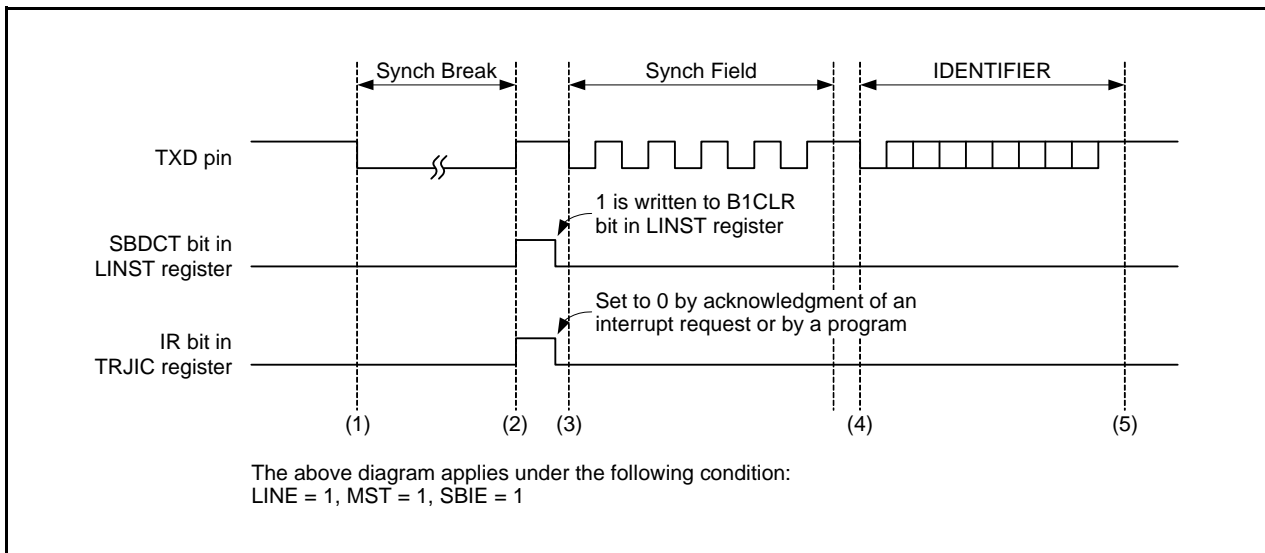
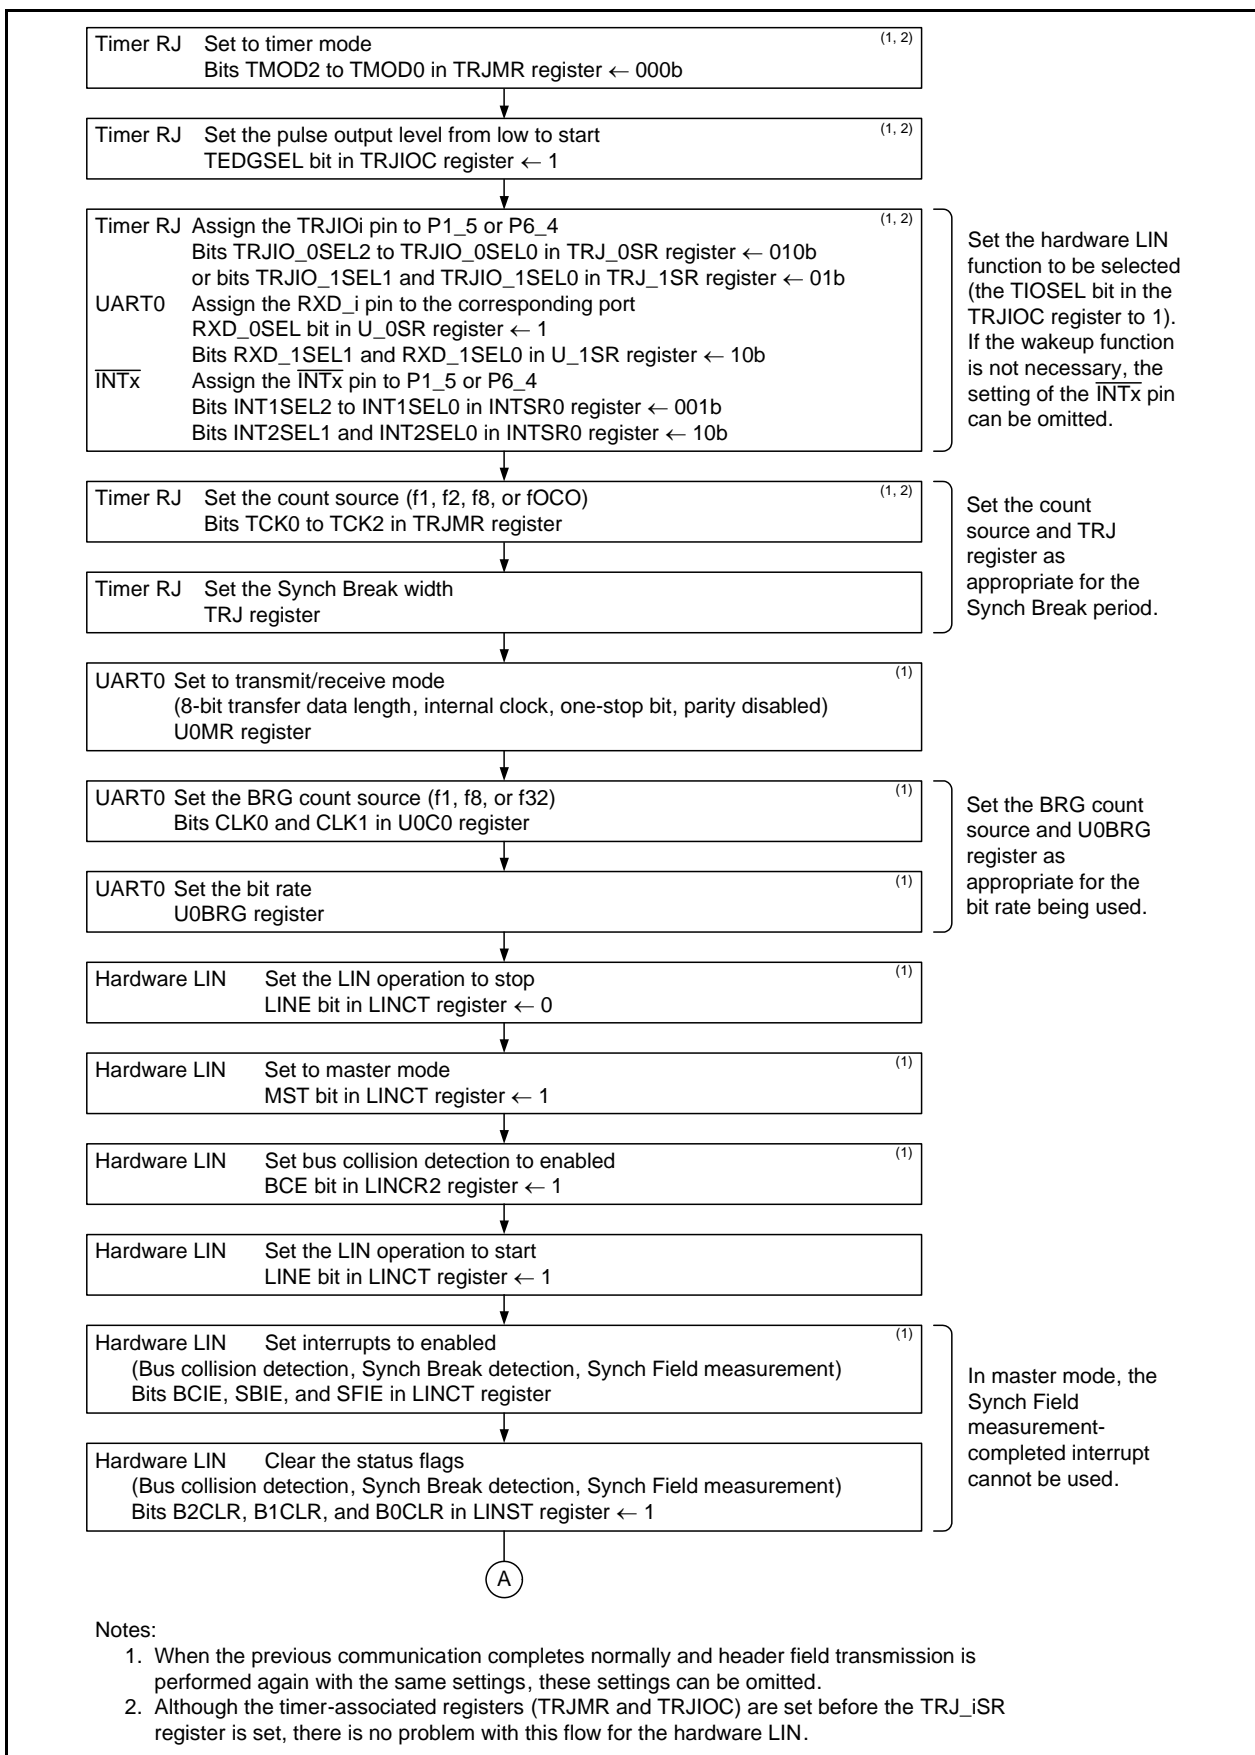
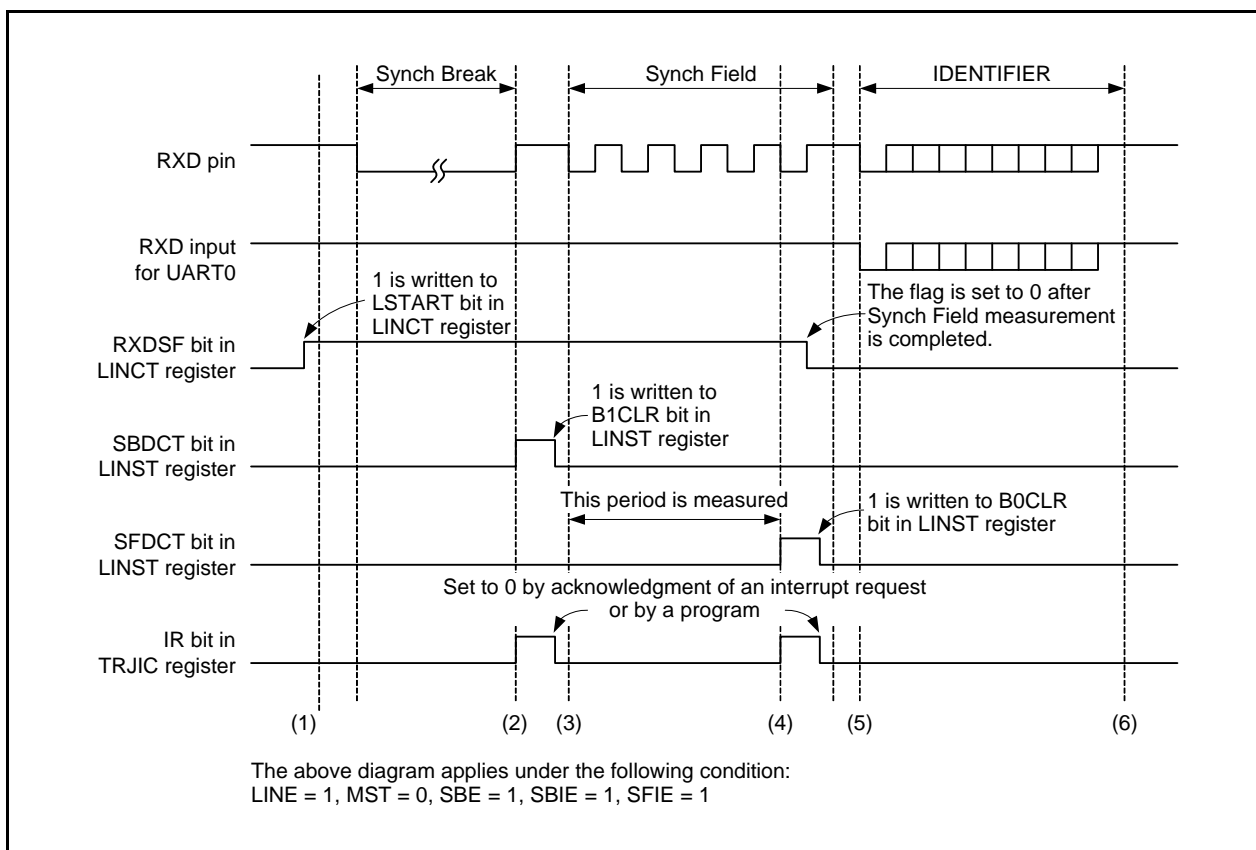
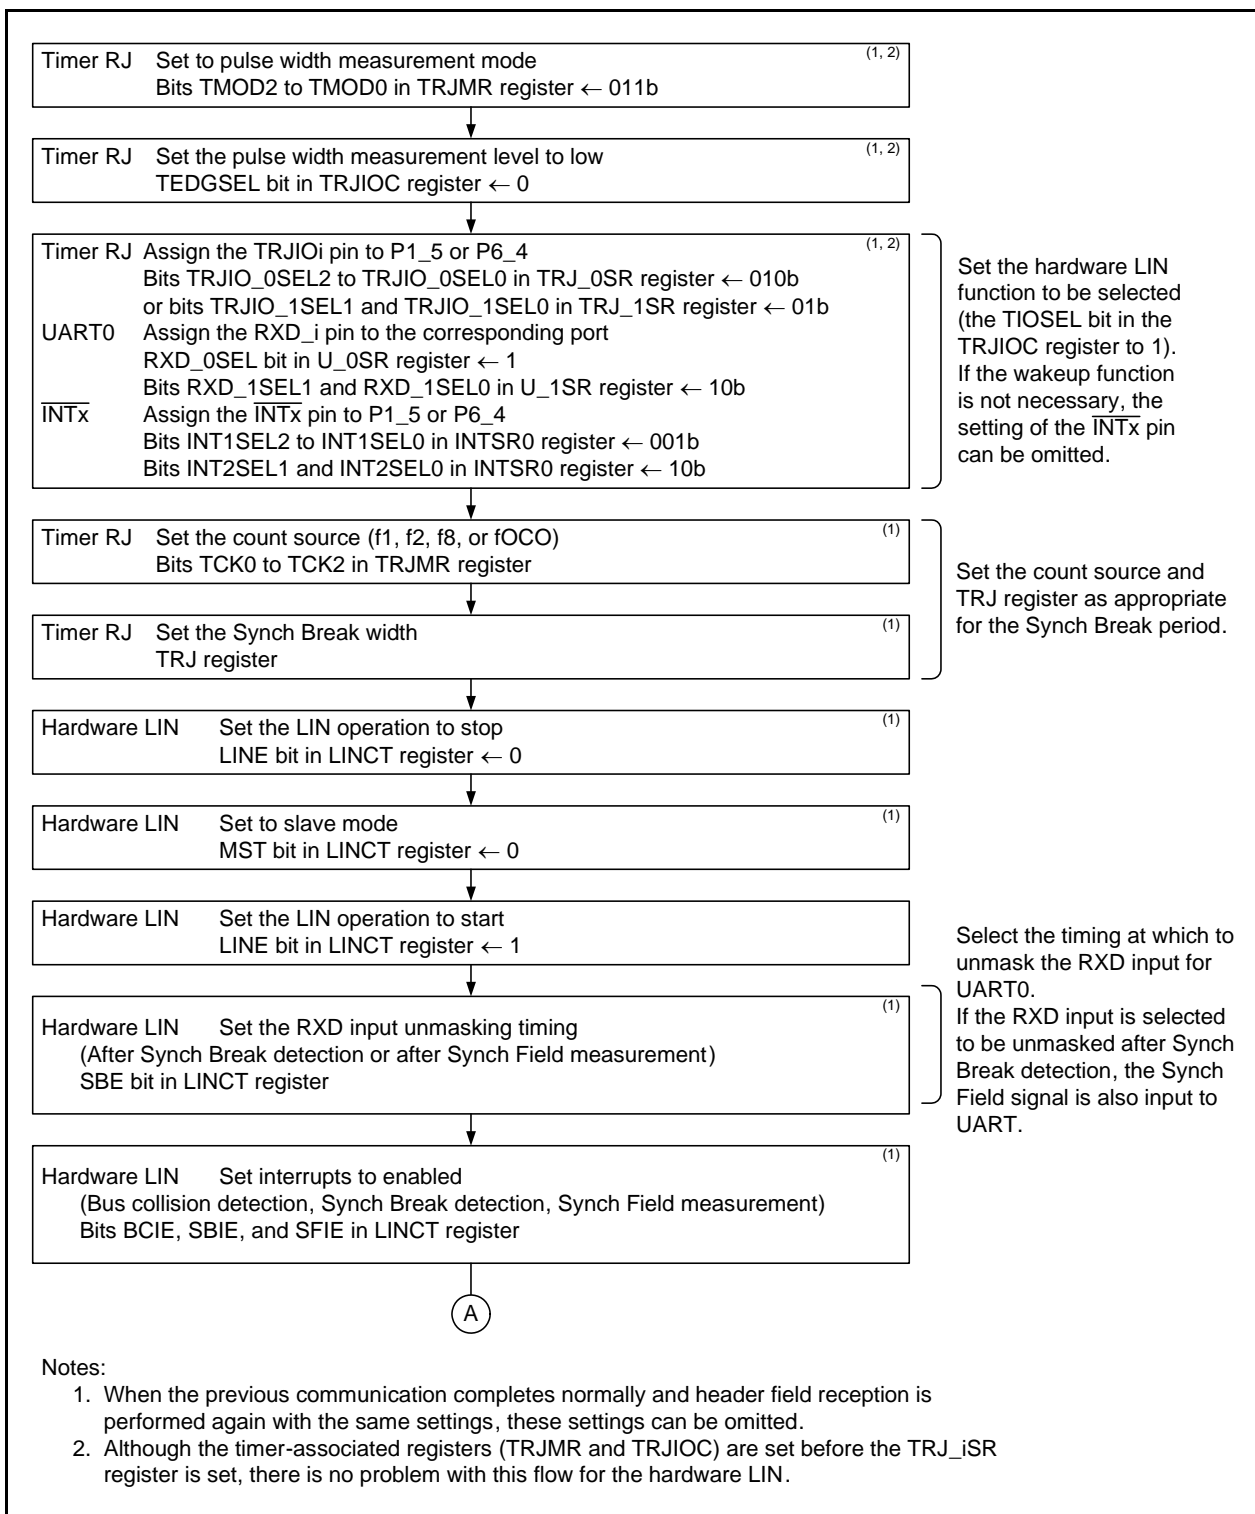

Figure 23.2 Operation Example during Header Field Transmission
Figure 23.3 Header Field Transmission Flowchart Example (1) (i = 0 or 1, x = 1 or 2)
Figure 23.5 Operation Example during Header Field Reception
Figure 23.6 Header Field Reception Flowchart Example (1) (i = 0 or 1, x = 1 or 2)
3. Inputs to timer RJ and UART are disabled immediately after the LINE bit is set to 1 (LIN operation starts). Refer to **Figures 23.3 and 23.4 Header Field Transmission Flowchart Examples** and **Figures 23.6 to 23.8 Header Field Reception Flowchart Examples**.
Figure 23.2 shows an Operation Example during Header Field Transmission master mode. Figures 23.3 and 23.4 show Header Field Transmission Flowchart Examples.
Figure 23.5 shows an Operation Example during Header Field Reception in slave mode. Figures 23.6 to 23.8 show Examples of Header Field Reception Flowchart.